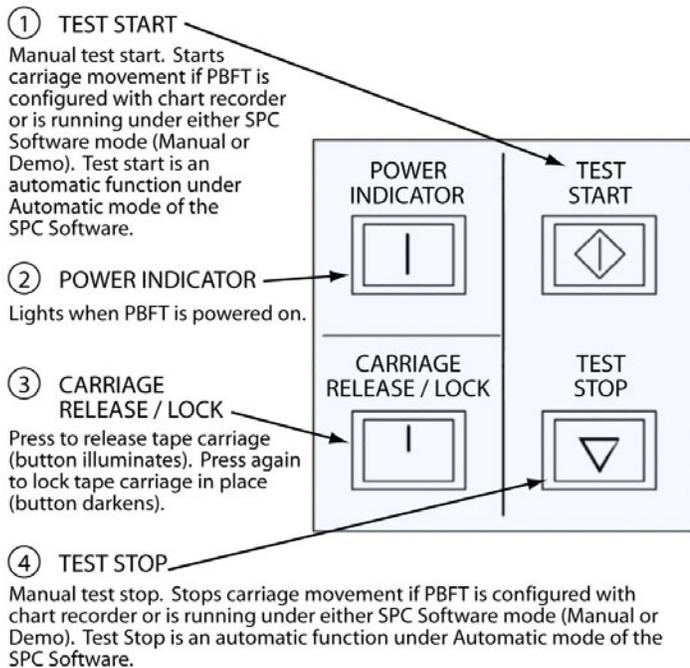

Figure 2 PBFT VS Control Buttons
1. Turn on the PBFT power switch. The power indicator (page 2, Figure 2, Item 2) will light.
- a. Press CARRIAGE RELEASE/LOCK (Figure 2, Item 3) to release the tape carriage.
- e. Press TEST START (Figure 2, Item 1). The following should occur:
**CAUTION:** If the TEST START light does not darken, IMMEDIATELY turn off the power switch and contact the GPD Global Service Dept. at (970) 245-0408 (in USA & Canada, call 1-800-742-5473).